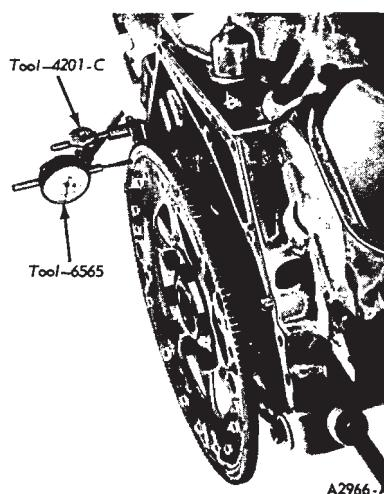

FIG. 37—Checking Flywheel Runout
2. Check flywheel runout (Fig. 37) and ring gear runout following proce-